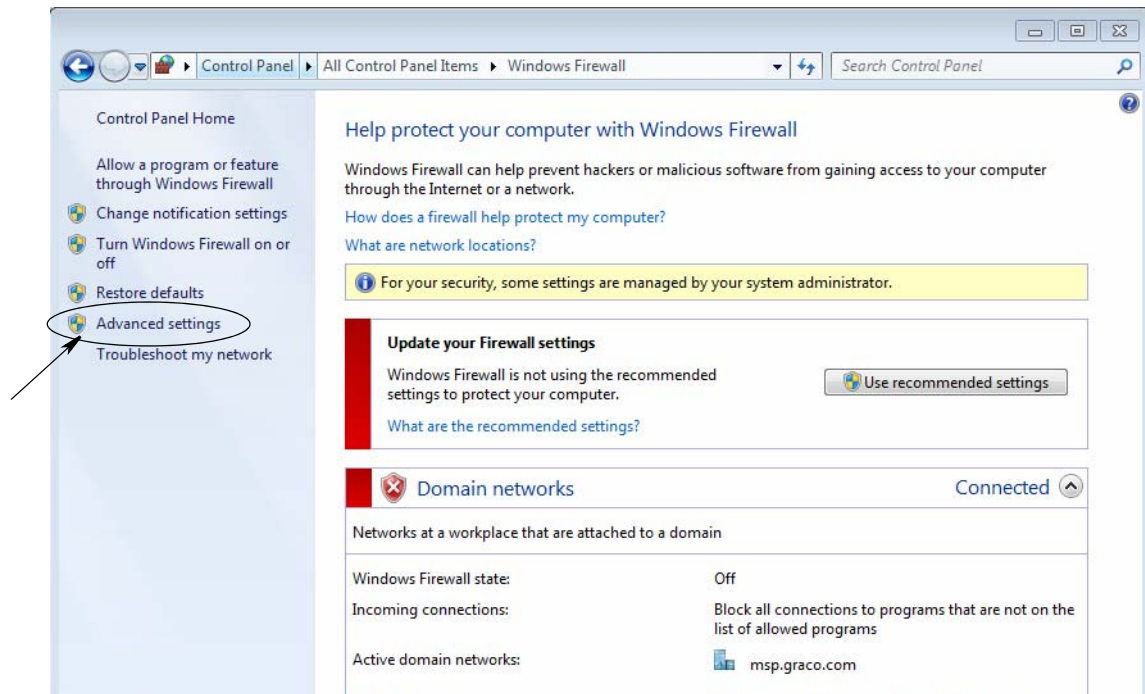

FIG. 39
2. Click on Advanced Settings (FIG. 39).